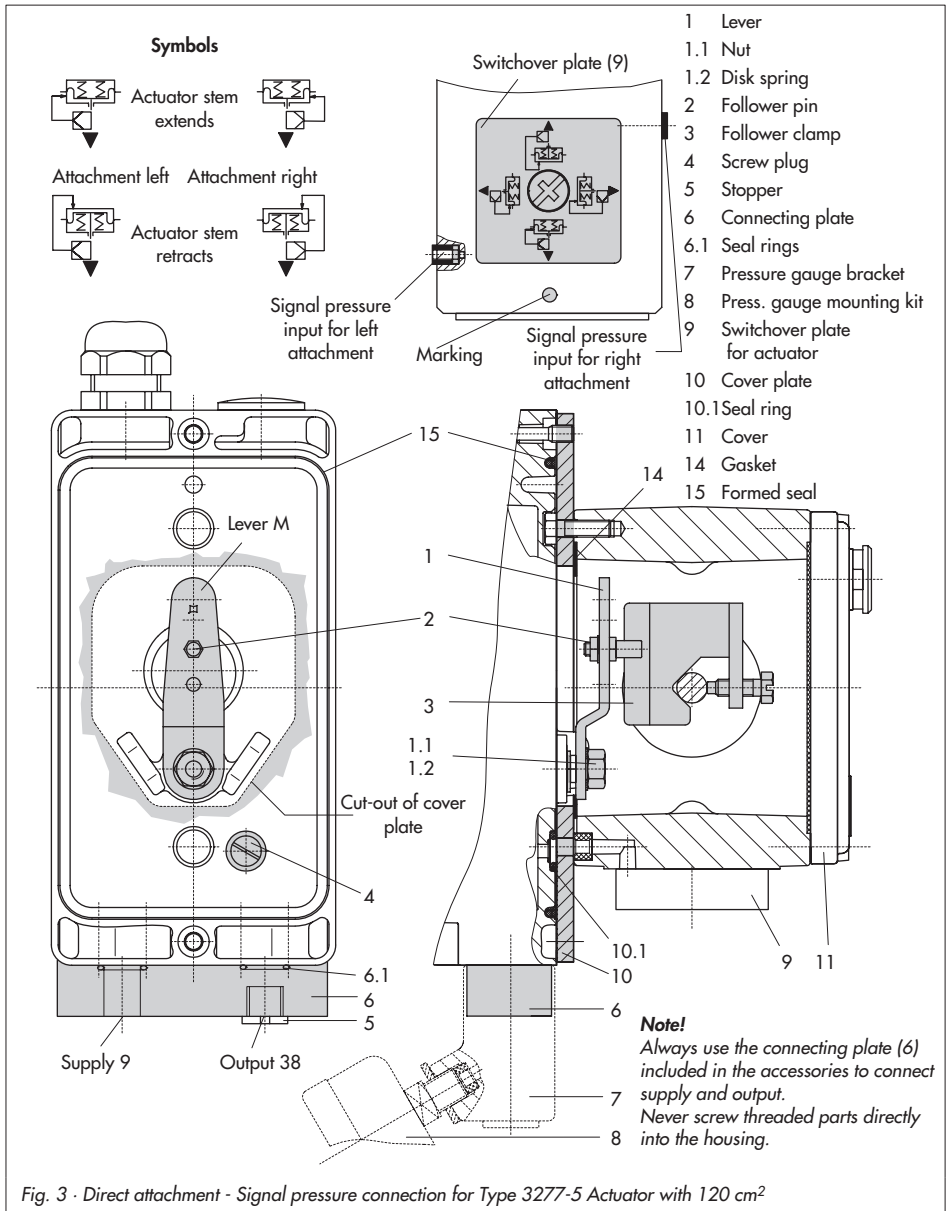

Fig. 3 · Direct attachment - Signal pressure connection for Type 3277-5 Actuator with 120 cm²
Table 1 Direct attachment to Type 3277-5 Actuator, see Fig. 3
1. Mount connecting plate (6) or pressure gauge bracket (7) with pressure gauges onto the positioner, making sure both seal rings (6.1) are seated properly.
2. Remove screw plug (4) on the back of the positioner and close the signal pressure output "Output 38" on the connecting plate (6) or on the pressure gauge bracket (7) with the stopper (5) included in the accessories.
3. Place follower clamp (3) on the actuator stem, align and screw tight so that the mounting screw is located in the groove of the actuator stem.
4. Mount cover plate (10) with narrow side of the cut-out opening (Fig. 3, on the